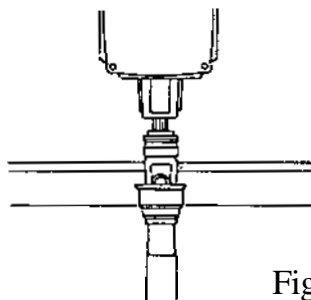

Fig. 3
- 1 Install female end of driveline onto Tiller gearbox input shaft and secure with proper quick locking device Fig. 3.